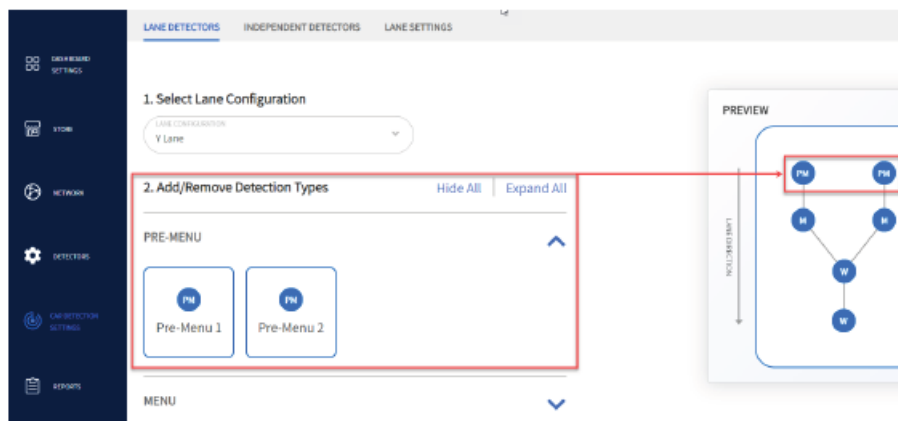

Fig. 5.6
- Select CAR DETECTION SETTINGS from the sidebar menu. Under Add/Remove Detection Types, expand the PRE-MENU option and click Add to add detectors. See Fig. 5.6.
- The PREVIEW graphic is dynamic and reflects the store's lane layout when changes are made. (If in a store with an existing Timer system, the layout should be the same as it was previously was but with a new PM dot (solid blue) added to the beginning of the graphic, as shown in Fig. 5.6.